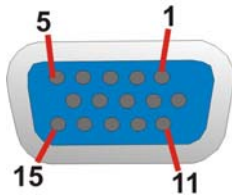

Figure 3-25: VGA Connector
- CN Pinouts:** See Figure 3-25 and Table 3-27